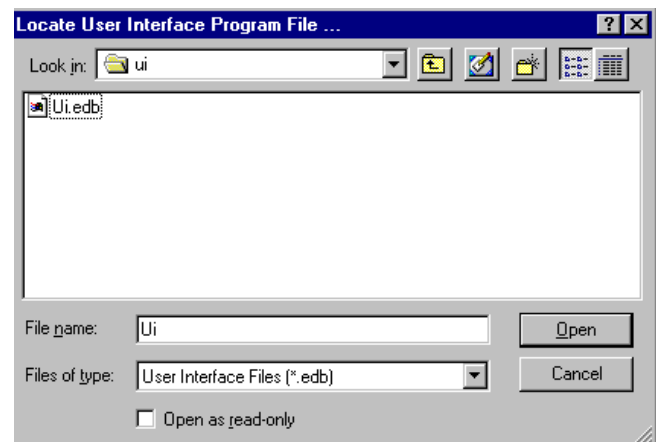

Fig. 13.40
5. After the download button is pressed, the Locate Program Files dialog box appears, displaying the default directory. See Fig. 13.40. Locate the Program file in this directory or the location/disk where the file is stored. Double-click on the file or select it and press the Open button to start the download.